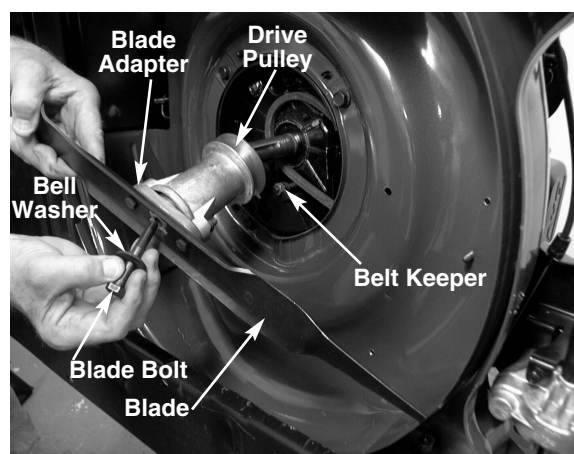

FIGURE 3.
5. Remove the blade bolt and bell washer from the blade assembly using a 5/8 socket. See figure 3.